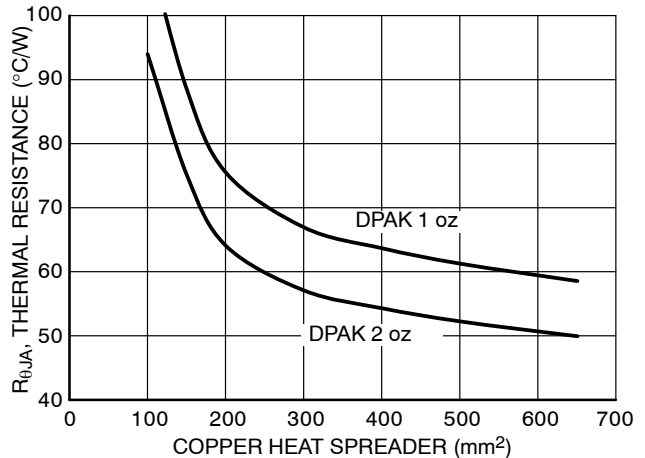

Figure 27. Thermal Resistance vs. PCB Copper Area
Since TJ is not recommended to exceed 150°C, then the NCV8774 soldered on 645 mm2, 1 oz copper area, FR4 can dissipate up to 2.35 W when the ambient temperature (TA) is 25°C. See Figure 27 for RθJA versus PCB area. The power dissipated by the NCV8774 can be calculated from the following equations: